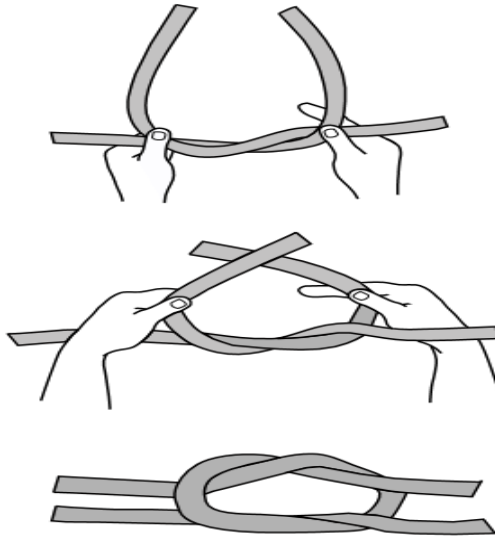

Figure 2-19. Square Knot.
b. Square Knot. The square knot is used to join two ropes of equal diameter together. This knot is secured on each side by an overhand knot. Pigtails will be a minimum of 4 inches (see fig. 2-19).